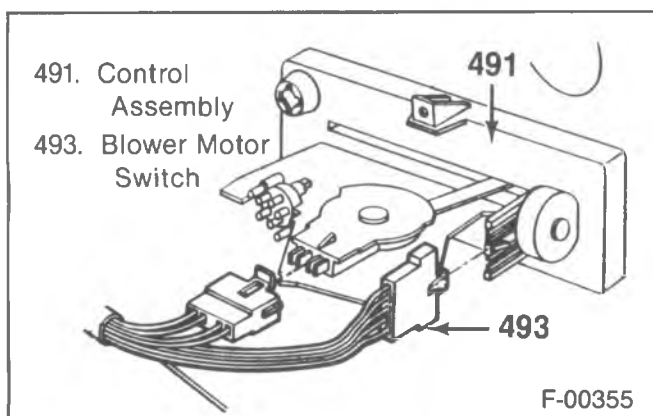

Figure 60—Blower Switch Wiring Harness
3. Electrical harness (figure 60).
5. Control assembly (491).
6. Switch (493).